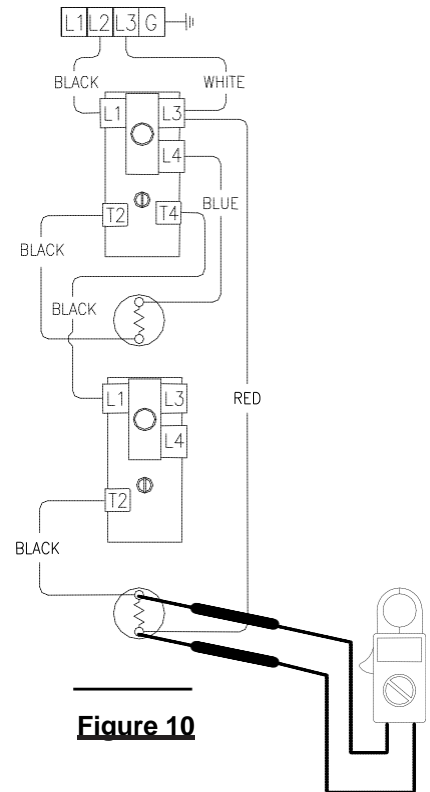

Figure 10
8. Check voltage across lower element (see Figure 10).